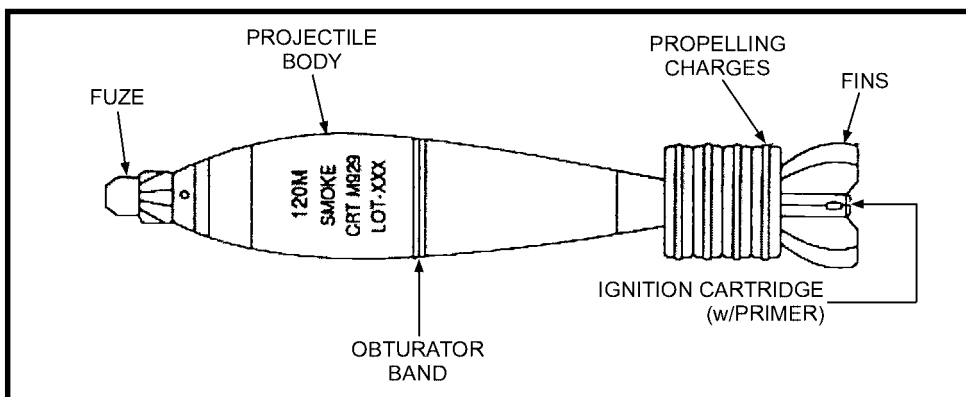

Figure 7-14. M929 smoke cartridge.
- f. **M929 Smoke Cartridge** (Figure 7-14, page 7-34).
- (1) Type and use: Smoke (white phosphorus); screening and spotting.
- (2) Identification: Light green with light red markings.
- (3) Components: M745 PD fuze, M230 propelling charge.
- (4) Maximum range: 7,200 meters at charge 4.
- (5) Minimum range: 200 meters at charge 0.